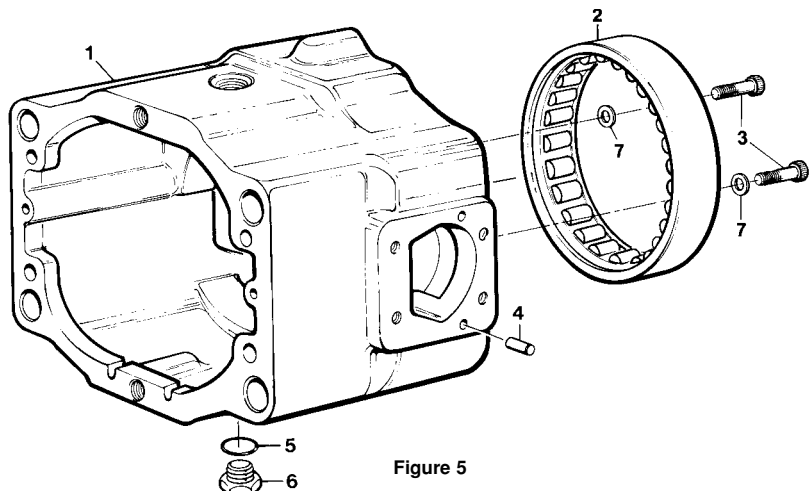

Figure 5
See figure 5 Clean housing (1) and position on a flat surface with the large open end up.
PARTS LIST FOR FIGURE 5